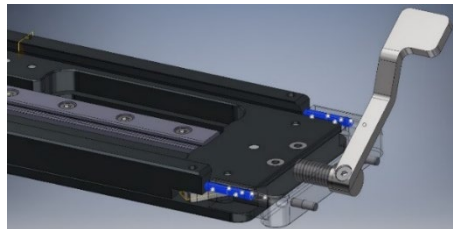

Figure 50. uMp-SLD locking adjustment screws shown in blue.
1. Tightness is adjusted from the back of the uMp-SLD using two set screws shown in blue (Figure 50).